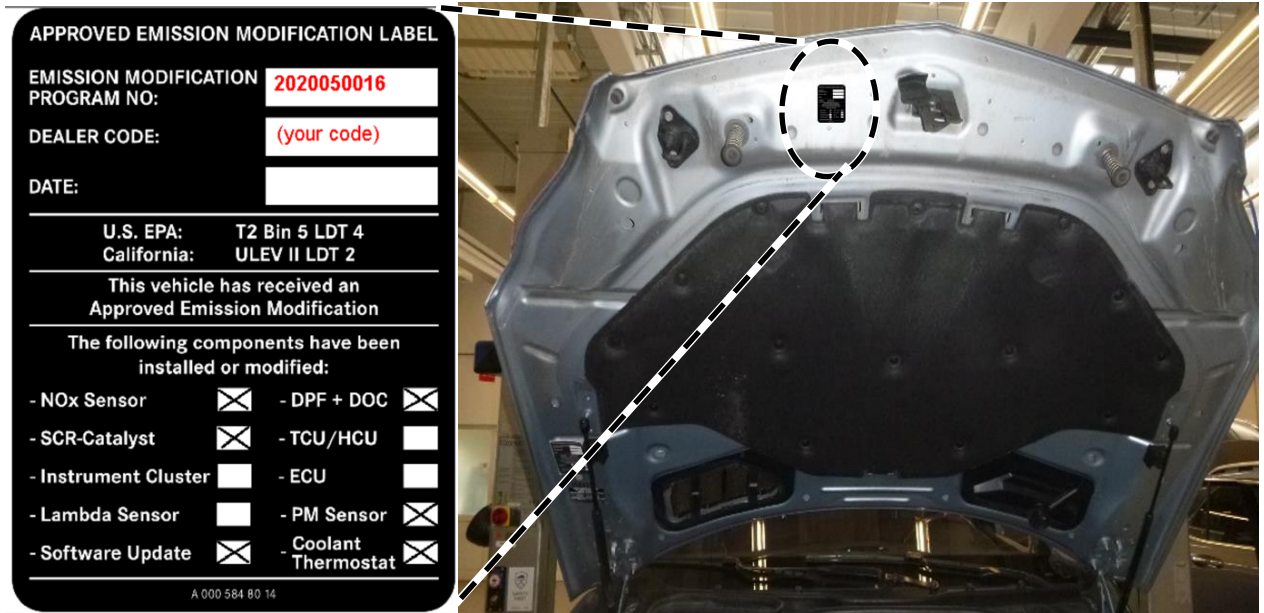

Figure 12
11. Clean the bonding surface of the hood and attach the adhesive label (**Figure 12**).